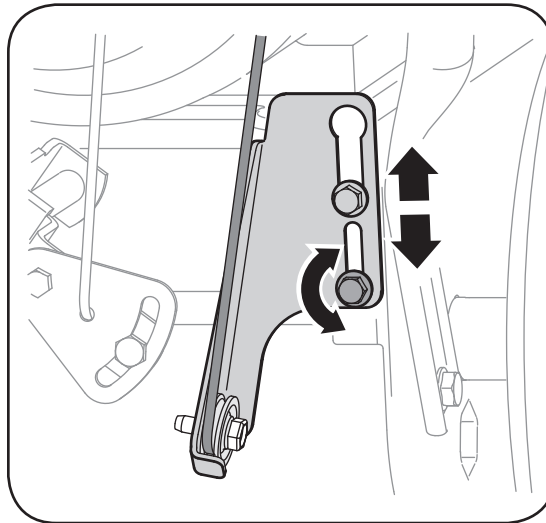

Figure 16
5. Loosen the lower hex nut on the drive cable bracket. See Figure 16.
4. If adjustment is necessary, loosen the lower hex nut on the drive cable index bracket and pivot the bracket upward or downward as necessary. Refer to Figure 16. Tighten the lower hex nut to secure the bracket when correct adjustment is reached.